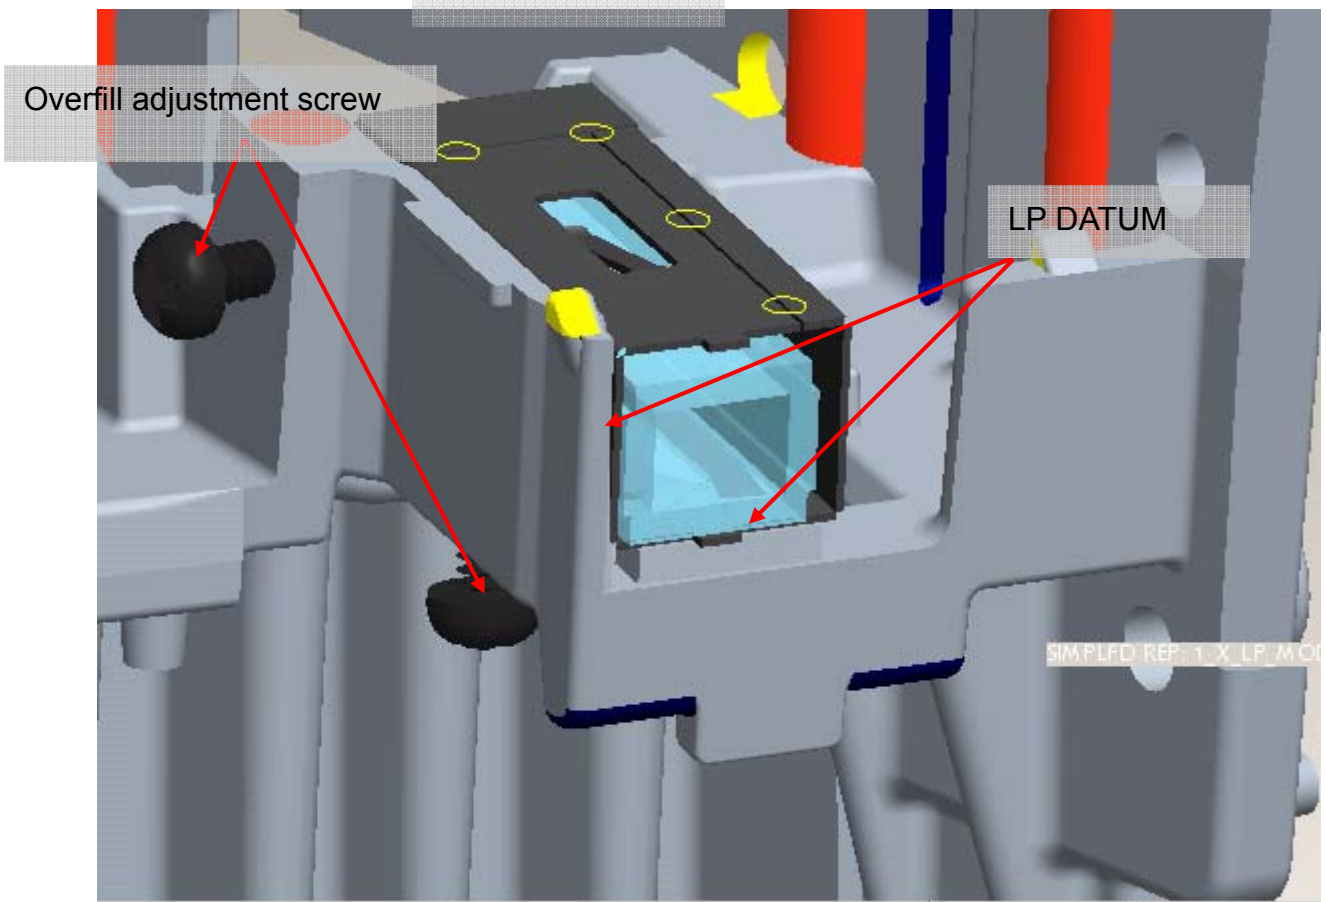

Fig. 5-6
- iii. Placed LP Module on LP datum and adjustment screw well, shown (Fig. 5-6).